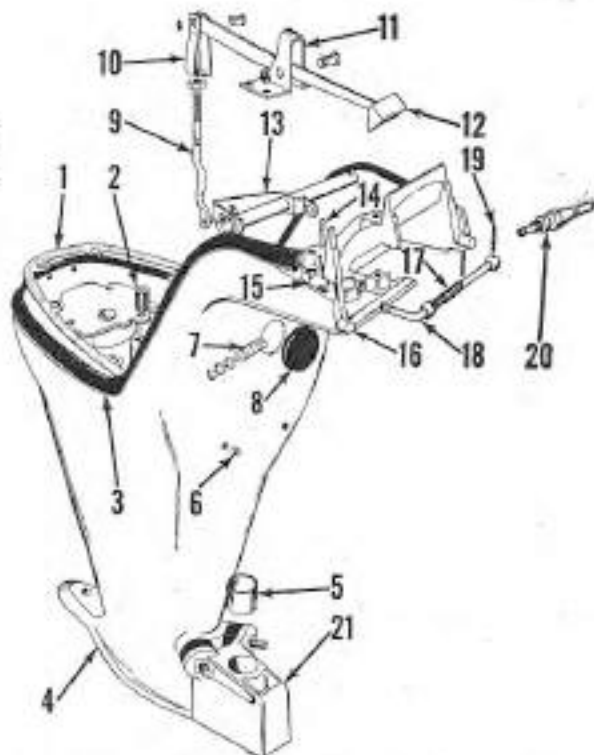

Fig. Mc65 — Exploded view of recoil starter assembly.
Fig. Mc65 shows an exploded view of the recoil starter assembly. To renew the starter pawls (8) or friction spring (9), re-